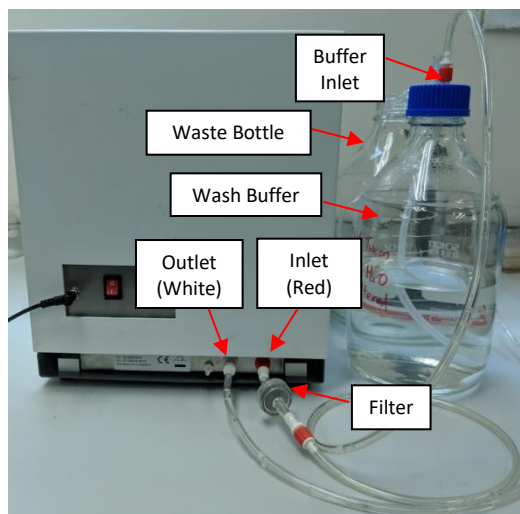

Figure 3.12: Assembly of tubing from bottle caps to HT2100
16. Insert the two delivery tubes into the respective ports on the HT2100 in the manner specified below (Figure 3-12):
3. Install a clean filter onto one end of the inlet tubing and insert into the red port on the HT2100. Install the other end (white connector) into wash buffer bottle via the red connector on the buffer inlet bottle cap. Refer to Figure 3-12.
Ensure the two delivery tubes are properly connected into the respective ports (red and white) on the HT2100. A clean filter is installed into one end of the inlet tubing and inserted into the red port on the machine. The other ends of the tubes are connected to either the wash buffer bottle via the buffer inlet bottle cap (from red port) or the waste container (from white port). Refer to Figure 3-12.